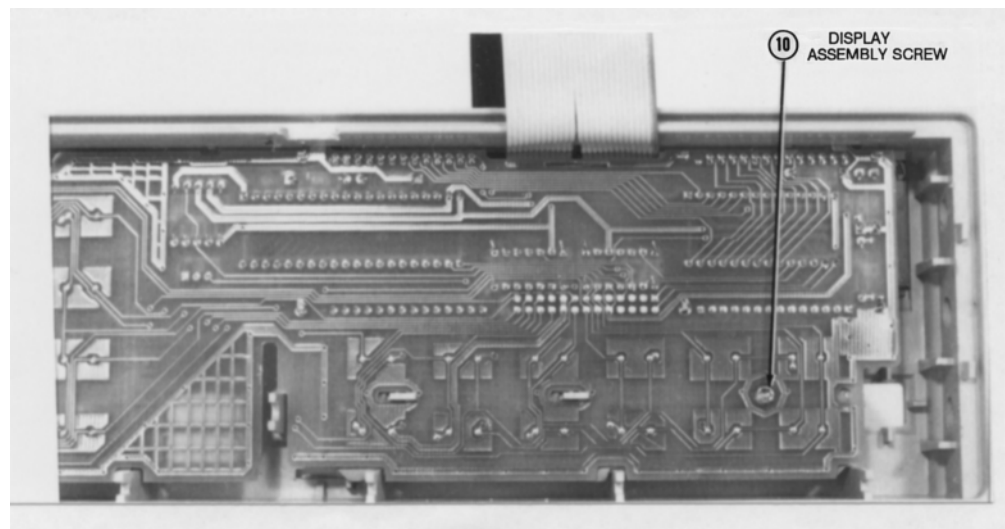

Figure 25. Remove/Install Display Screw
14. Refer to Figure 25. Use the #TX10 Torx driver to remove the single Torx screw from the Display assembly.
3. Refer to Figure 25. Use the #TX10 Torx driver to install the screw on the Display assembly.